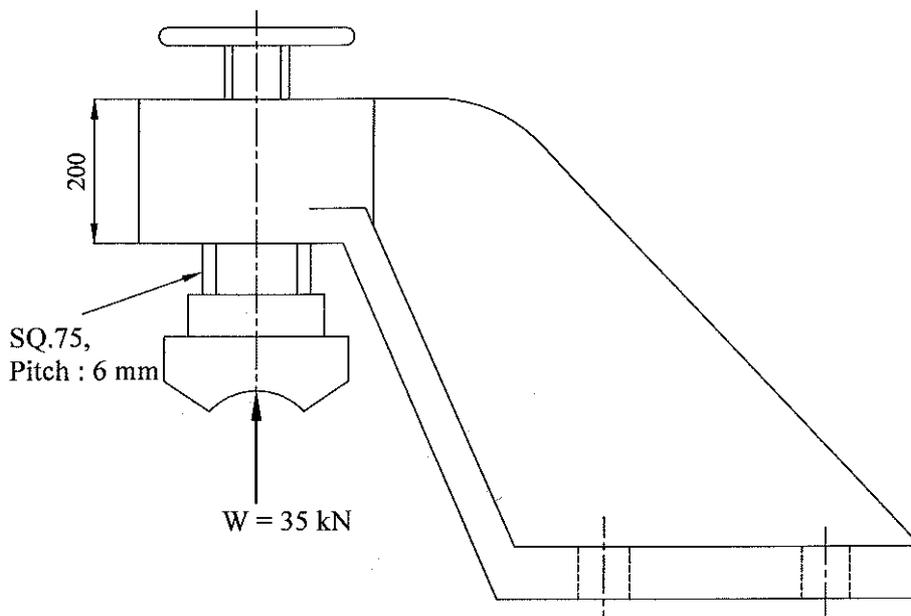

Fig. 2
- b) A shaft straightener is as shown in fig. 2. The axial load on the screw member is 35 kN. Find the forces required at the rim of the hand wheel of 300 mm diameter. Assume coefficient of friction in the threads as 0.12. Determine the maximum compressive stress, bearing pressure and shear stresses in the screw. Determine the efficiency of the arrangement, neglecting collar friction. Ignore the effect of bending due to force at the hand wheel. **8**